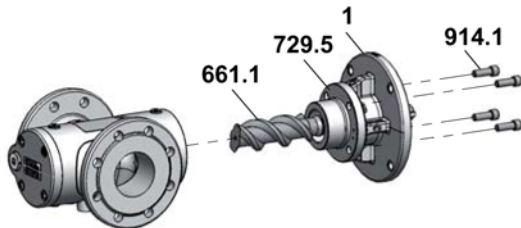

Fig. 20
2. Pull the withdrawable unit consisting of main screw **661.1**, bearing, seal and flange cover out of the pump housing, see Fig. 20.